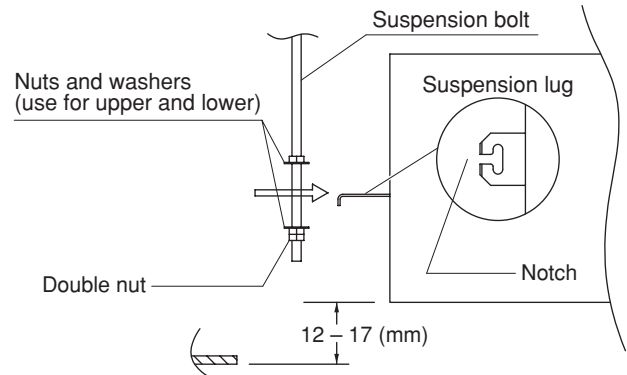

Fig. 3-5
- (3) Thread the 3 hexagonal nuts and 2 washers (field supply) onto each of the 4 suspension bolts as shown in Fig. 3-5. Use 1 nut and 1 washer for the upper side, and 2 nuts and 1 washer for the lower side, so that the unit will not fall off the suspension lugs.
- (4) Adjust so that the distance between the unit and the ceiling bottom is 12 to 17 mm. Tighten the nuts on the upper side and lower side of the suspension lug.
- (5) Remove the protective polyethylene used to protect the fan parts during transport.